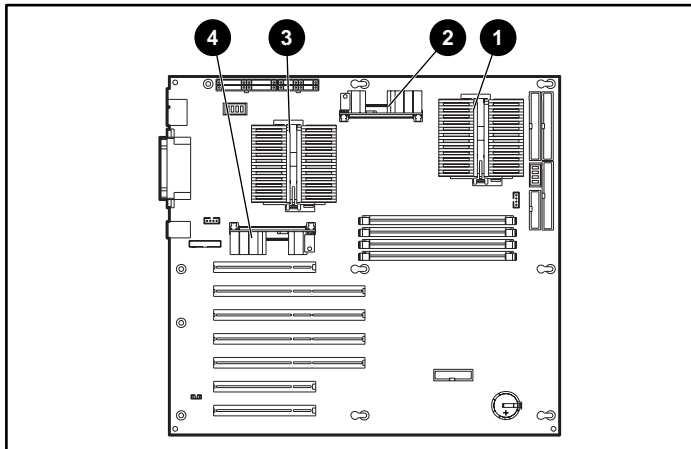

Figure 3-32. Locating the processor slots and Processor Power Module (PPM) sockets
2. Locate the processor slots and Processor Power Module (PPM) sockets as shown in Figure 3-32 and Table 3-3.